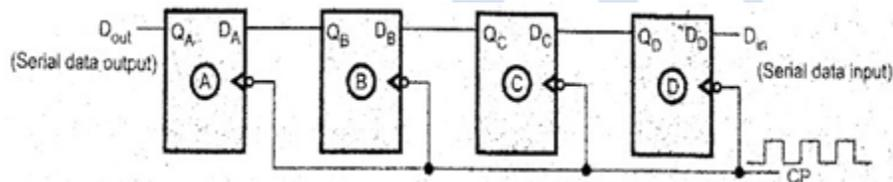

**Figure 6.62(a): Serial in Serial out shift register- left to right shift**
**Serial-In Serial-Out shift mode:** The shifting operation is achieved in two ways either shifting data from left to right or from right to left. Figure 6.62(a) shows left to right shift and
Figure 6.62(b) shows the right to left shift operation. let input as 4-bits data that are applied at input of D-Flip-flop. Only one data bit is applied to each flip-flop, here only D-flip-flop is elected because input to the D-flip-flop is equal to its next state value. In SISO mode initially each flip-flop output is '0'. By applying clock cycle bit by bit stored by shifting each output of flip-flop to its next stage flip-flop. For example the input data is '1111' then it requires four clock cycles to store. All the stored data bits are collected at the output of last stage flip-flop.